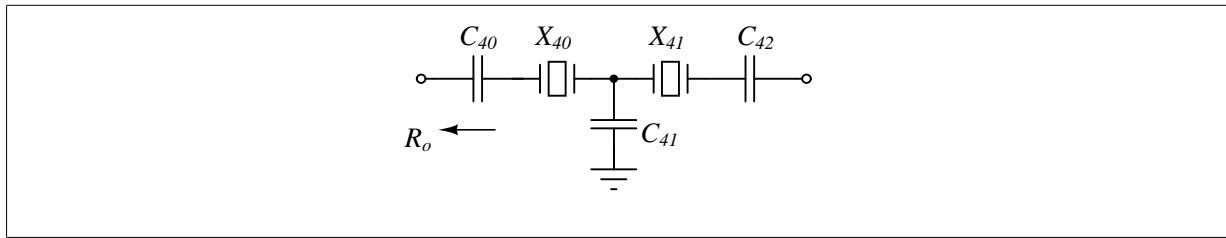

Figure 4: IF Filter schematic.
1. The IF filter of TRC-11 is given in Fig. 4. Start building the filter by placing the crystal X40 and its corresponding series capacitor C40 in their places. Solder them. If you found that you do not need a series capacitor, place short-circuiting wire in place of C40.